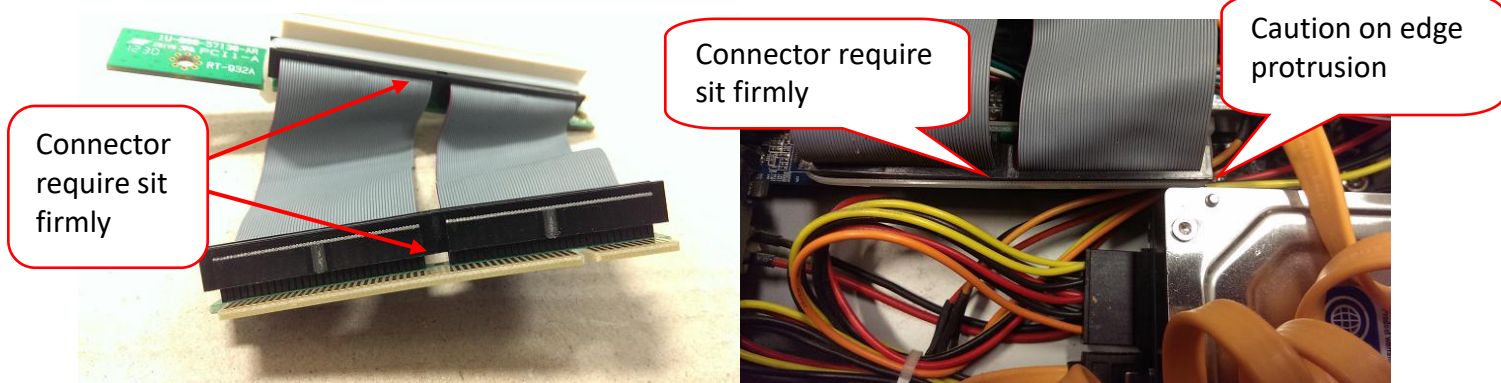

Figure 8 Flex Cable Type
3. Go to “Window Firewall” and select “Turn Window Firewall on or off” at left panel as Figure 8.